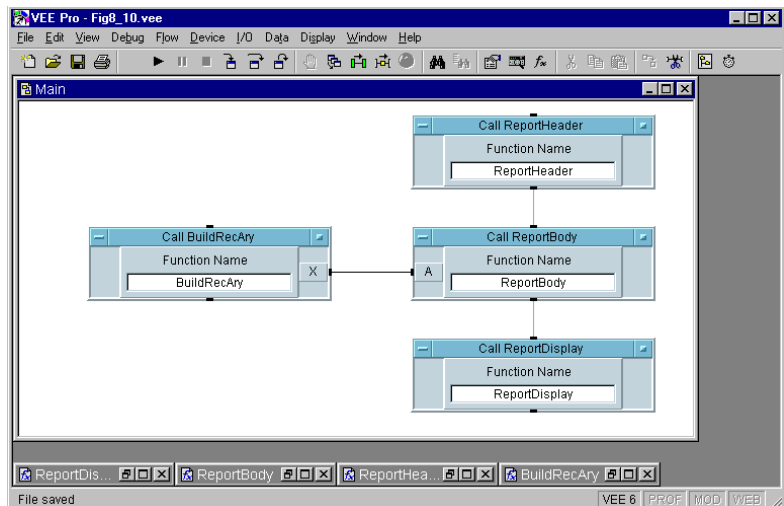

Figure 191 Report.vee from the Top Level
- b In Main, create four **Device** ⇒ **Call** objects configured and connected as shown in Figure 191. Save the program as **Report.vee**.